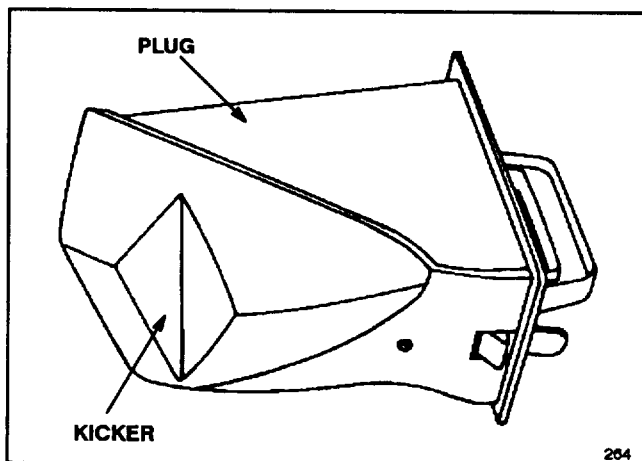

Figure 8
- A plug which locks into the mower's discharge tunnel (a fourth kicker is on the plug) (Fig. 8)
It is possible to mow without using the plug by closing the discharge tunnel door. However, your lawn appearance will be much more satisfactory if you use the plug as it has an additional kicker (Fig. 8) that helps drive the clippings down into the grass.